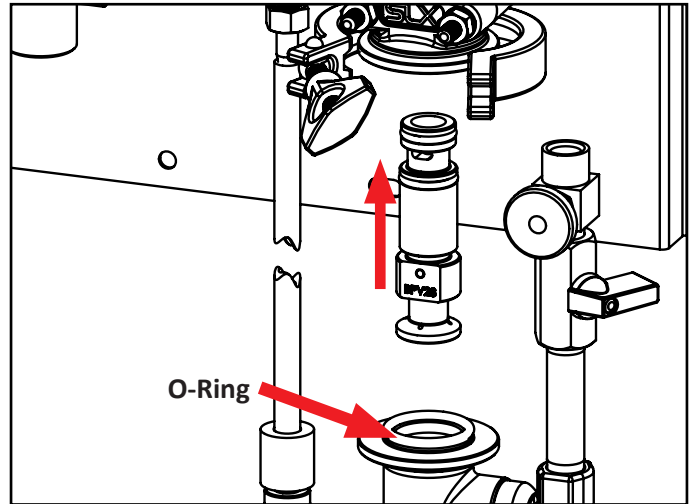

Fig. 9.1: Replacing venturi insert and foamer body
7. Replace insert when clean or with a new version by sliding it back into the upper body, o-ring section first. [Fig 9.1]